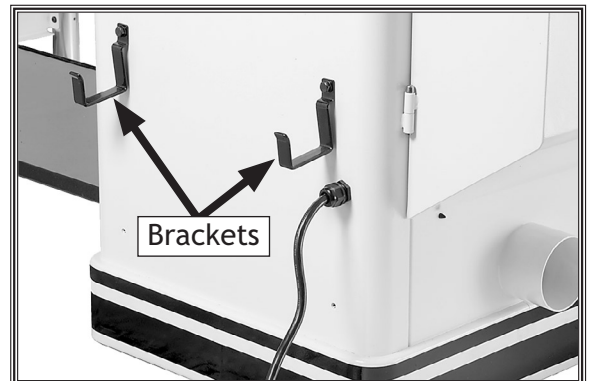

Figure 35. Fence resting brackets installed.
4. Install the fence resting brackets (**Figure 35**) onto the back of the cabinet with two flange bolts.